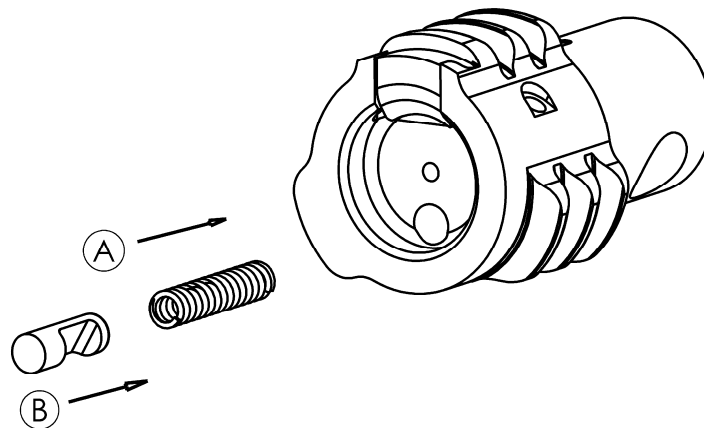

Figure 20.
1. Place the ejector spring in the ejector spring hole. (Figure 20, step A.) The spring is bi-directional.
2. Place the ejector in the ejector hole. (Figure 20, step B.) Orient the ejector so that the ejector's pin slot is facing toward the bolt.